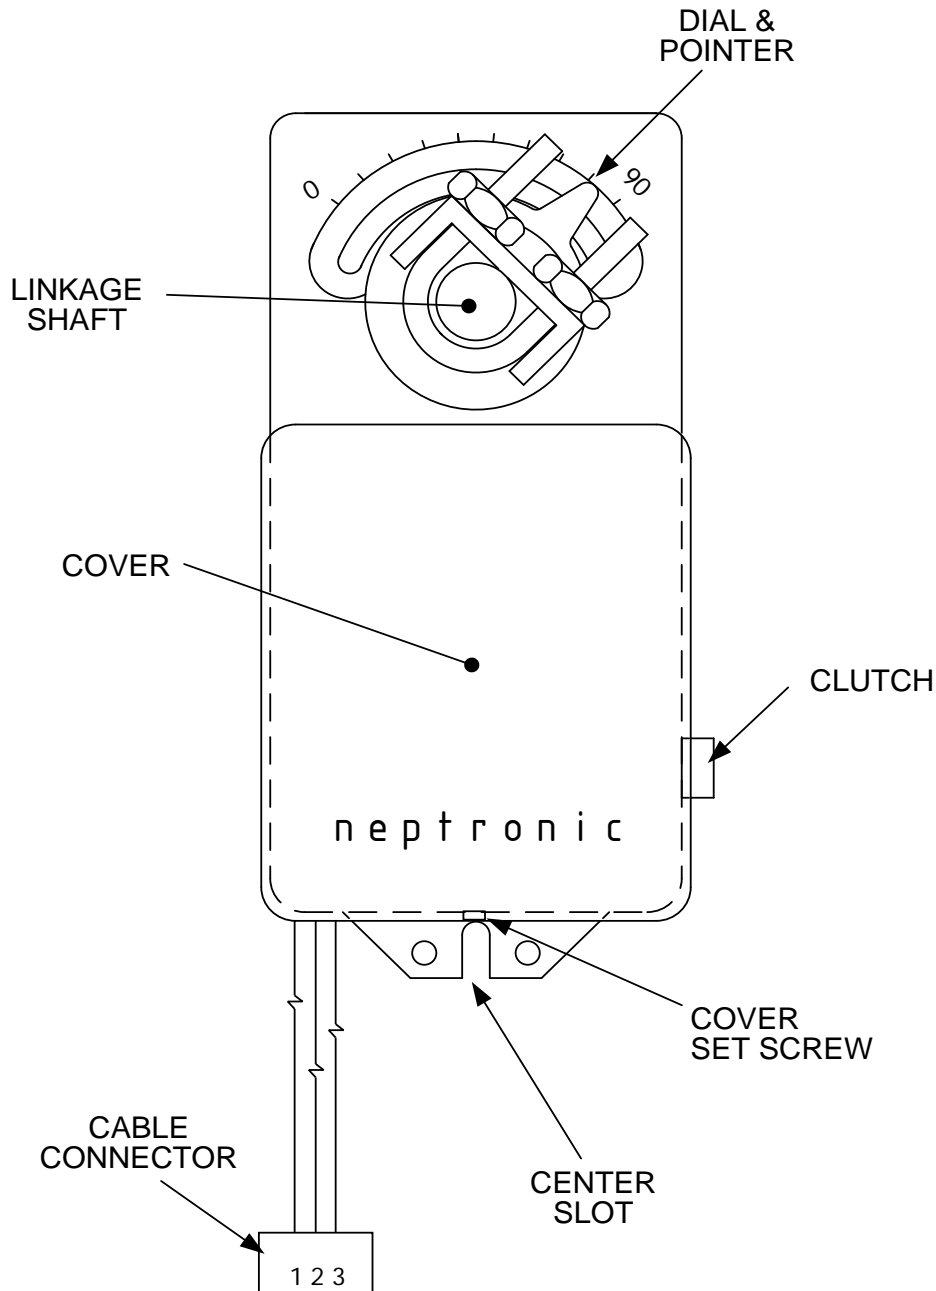

Figure 8-5. Actuator Replacement
- 5) To install the replacement Actuator, depress and hold the Clutch button (Figure 8-5) and rotate the pointer to approximately 80° on the dial. Release the Clutch.
- 7) Ensure that the pin on the Linkage Assembly is inserted in the center slot on the bottom of the Actuator (Figure 8-5).